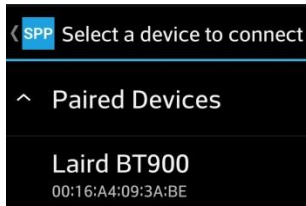

Figure 11: Click Laird BT900
10. Click **Laird BT900** (Figure 11) to establish the SPP connection.